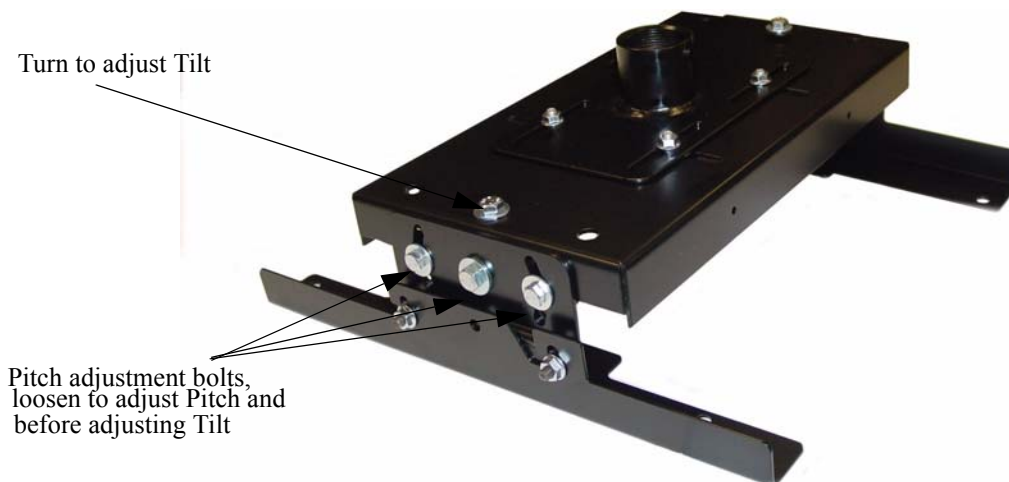

Figure 3. Adjust Yaw, Pitch, and Roll
1. Loosen (slightly) three pitch adjustment bolts located on each side of the mounting plate (see Figure 3).